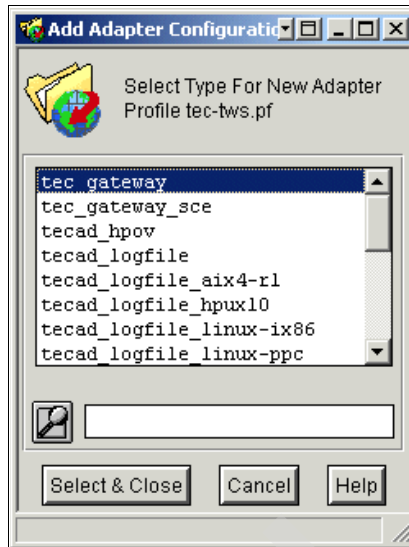

Figure 8-36 Add Adapter Configuration window
15. Select **Add Entry**. The Add Adapter Configuration window displays with a list of TEC logfile adapters as shown in Figure 8-36 on page 365.